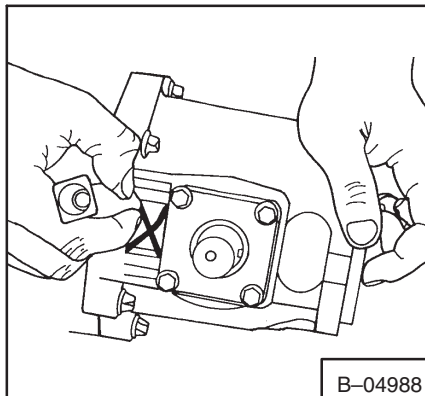

**Fig. 3-103** Removing Rotating Group
11. Remove the rotating group from the housing. Use both hands to keep pistons from falling out of the cylinder block (Fig. 3-103).